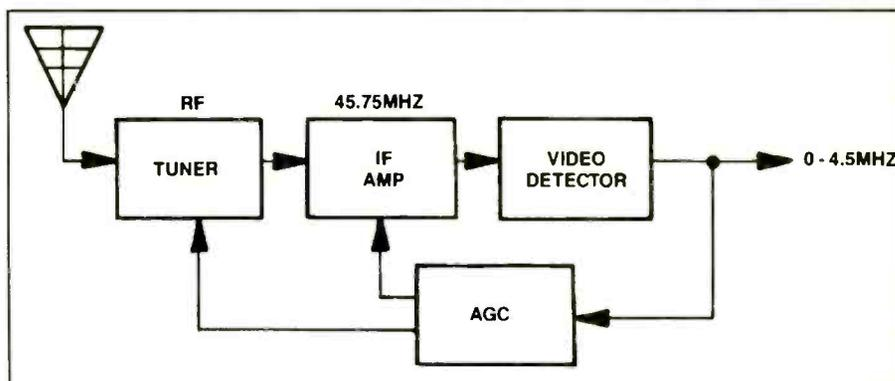

Figure 1. A block diagram of the RF and IF sections of a color TV..
All signal components received from the antenna pass through a tuner and an IF amplifier on their way to the video detector (Figure 1). The RF signal ranges in frequency from 55MHz for channel 2 up to 885MHz (tuned with the aid of an UHF converter) for channel 83. The tuner amplifies the desired frequency and converts it to an intermediate frequency (IF) of 45.75MHz. The IF signal is then amplified in the IF amplifier.
The output level from the video detector is usually about 3Vpp. Keep in mind that the amplitude of the signal at the antenna is often as low as 10μV rms. This means that the three blocks in Figure 1 must provide 110dB of gain. This same antenna might receive signals as strong as